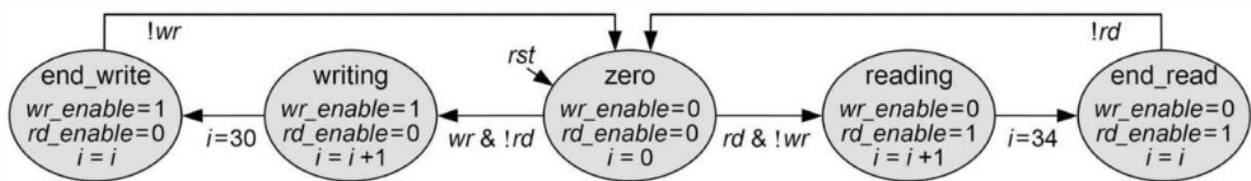

Figure 6: Pointer i implemented using a conventional recursive FSM
- To implement this kind of protocol, a good way is to use a pointer, which in this case means it is the "step" in the read/write process. And to generate this pointer, we can use an FSM like fig. 6. Choose your weapon, and describe a VHDL component creating the interface to the Maxim ADC.